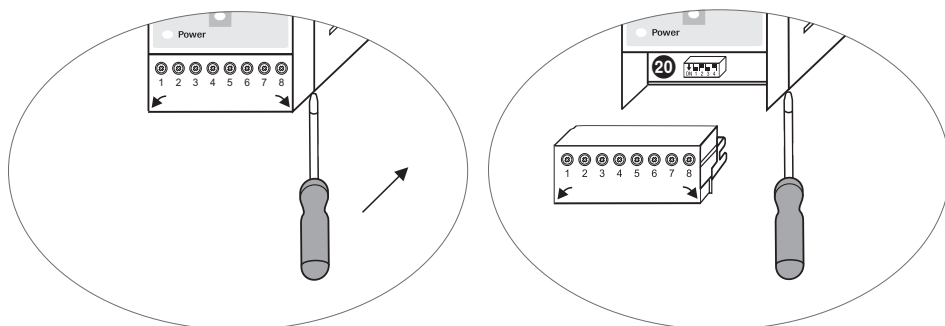

Fig. 14
- Remove **lower** terminal strip. **Fig. 14**